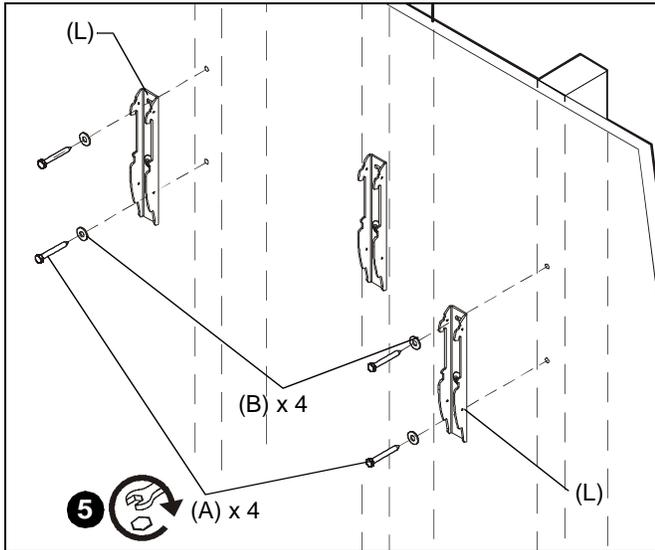

Figure 4
5. Install four 5/16 x 2-1/2" hex head lag screws (A) through four 5/16" washers (B), holes of mounting bracket and into drilled holes. (See Figure 4)